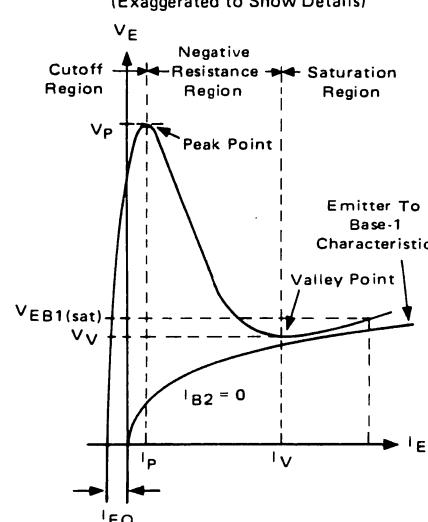

FIGURE 3 – V_{OB1} TEST CIRCUIT
(2) Use pulse techniques: $PW \approx 300 \mu\text{s}$, duty cycle $\leq 2\%$ to avoid internal heating due to interbase modulation which may result in erroneous readings.
(3) Base-One Peak Pulse Voltage is measured in circuit of Figure 3. This specification is used to ensure minimum pulse amplitude for applications in SCR firing circuits and other types of pulse circuits.